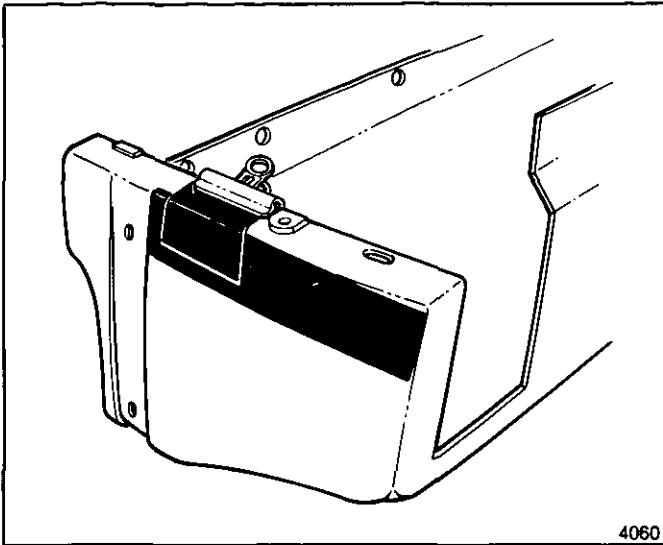

Fig. 1-19-Aligning Damage with Tape and Clamp
- Align and secure the piece on the face side with body tape and clamp (Fig. 1-19).